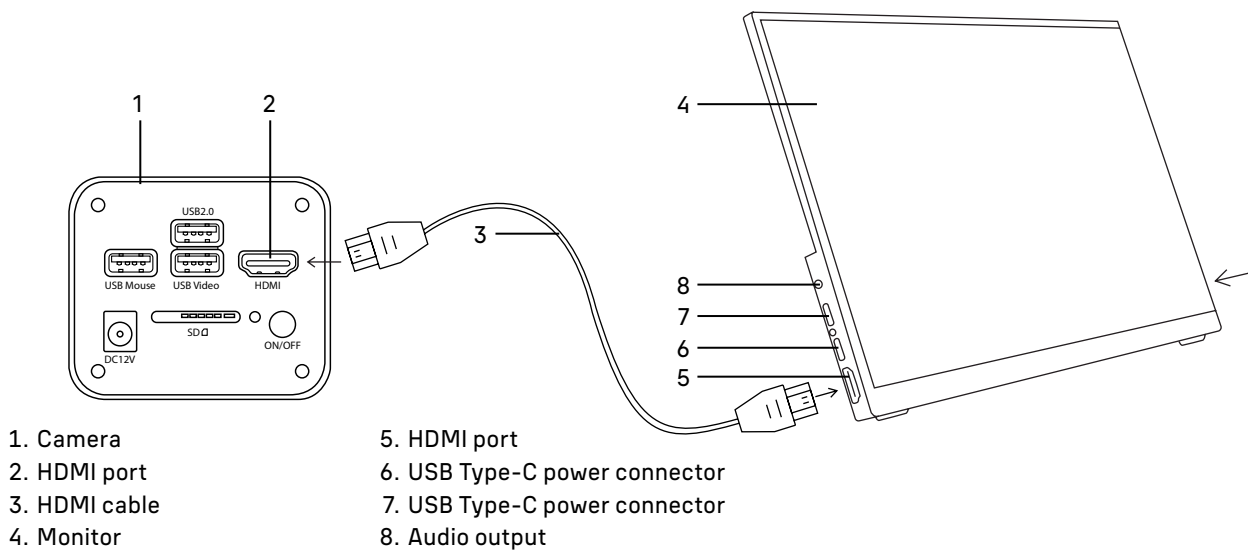

Fig. 22. Using the monitor
- Switch on the monitor by pressing the lower button on the side panel as indicated by the arrow (not shown in Figure 22).